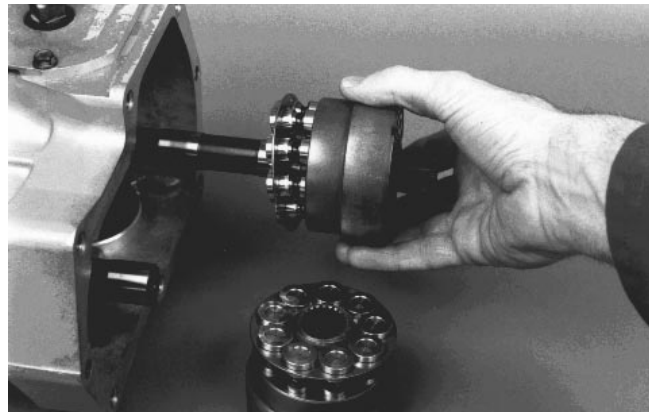

Figure 46
7. Lay transmission on its side and remove motor cylinder block assembly from the housing. Remove pump cylinder block assembly from pump shaft (Fig. 46).